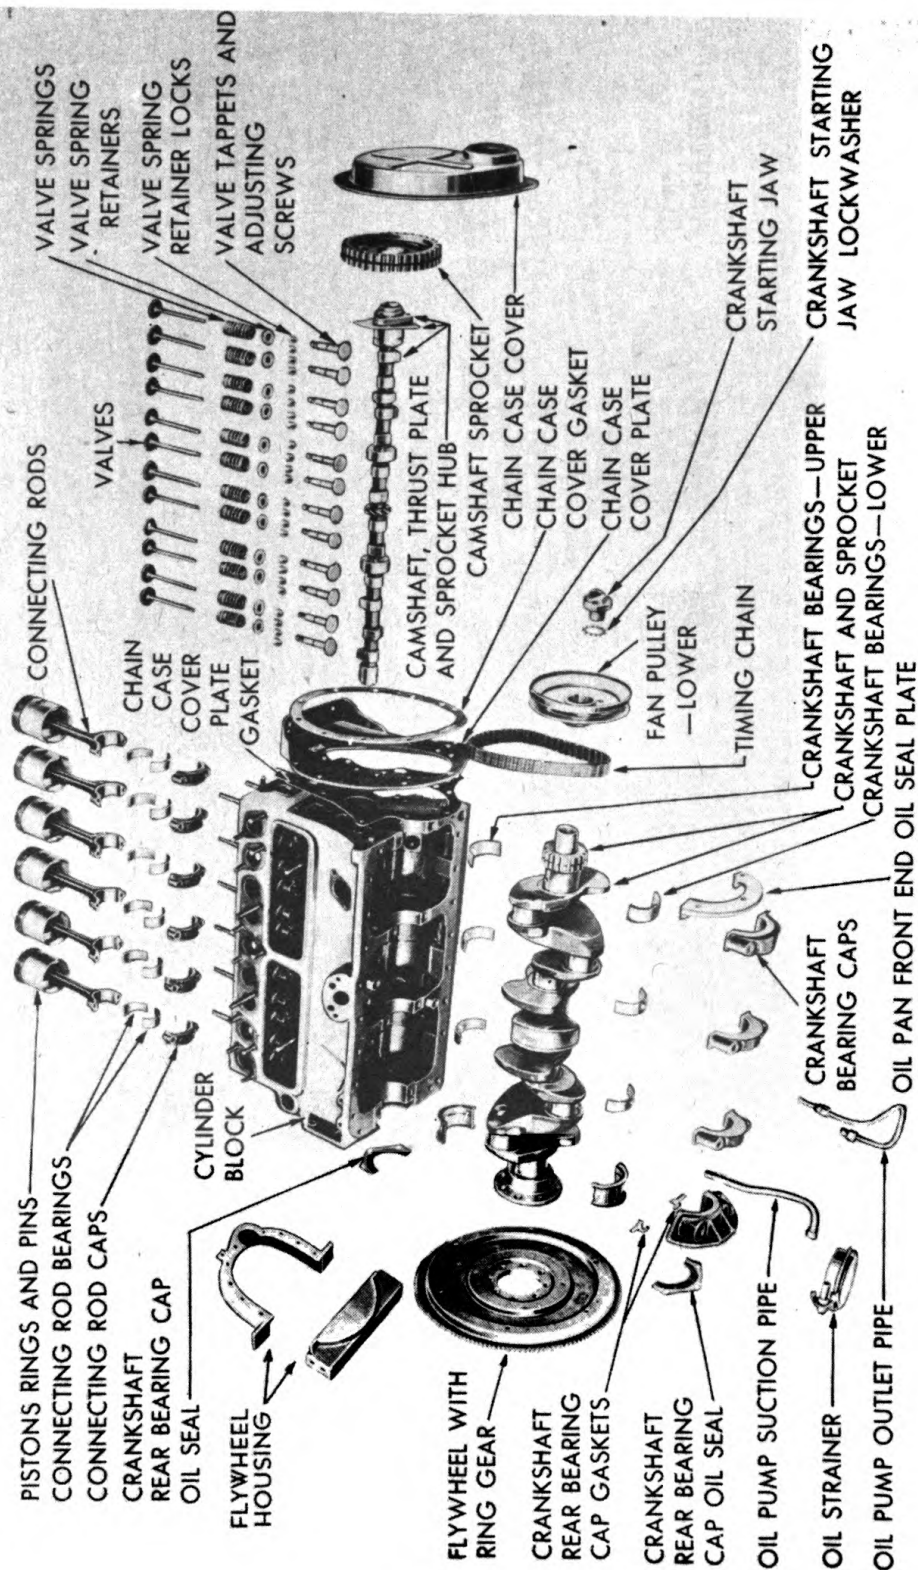

Figure 82—Stripped Engine Disassembled
85. REMOVE CYLINDER HEAD AND VALVES—(Figure 82.)
—(Figure 82.)